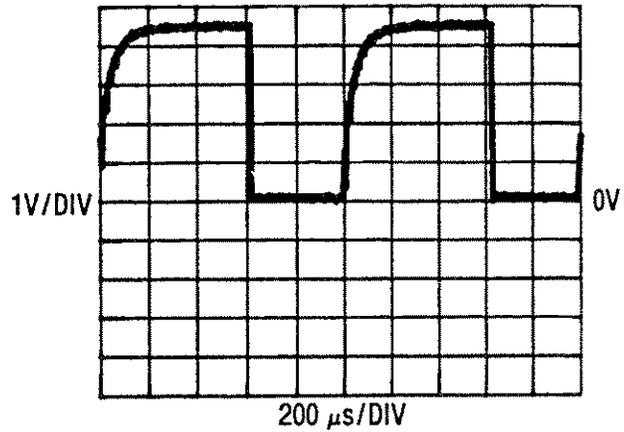

Figure 8-55. +5 Volt Display Clock
A9TP3 (+5V Display) ..... See Figure 8-55
3. Compare the signal at A9TP1 (CLK) with Figure 8-55. If the signal is incorrect, continue troubleshooting on Service Sheet 3. If the signal is correct, replace A8U1.